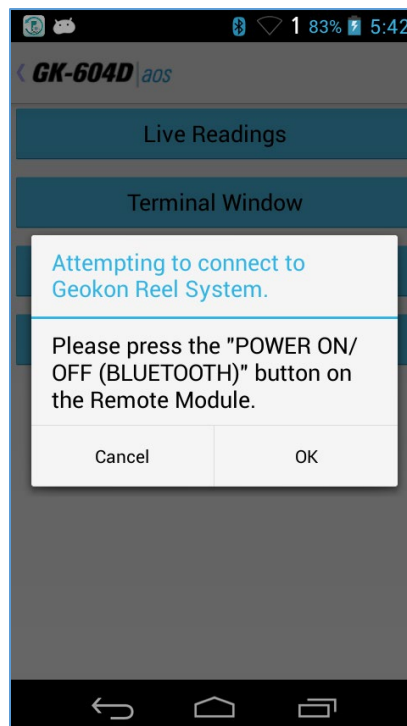

Figure 11 - Remote Module Power-On Reminder
- 9) From the “Main” screen tap the “APP” button. Start the connection process by tapping on the “Live Readings” button. Tap on “OK” from the resulting reminder prompt (Figure 11).